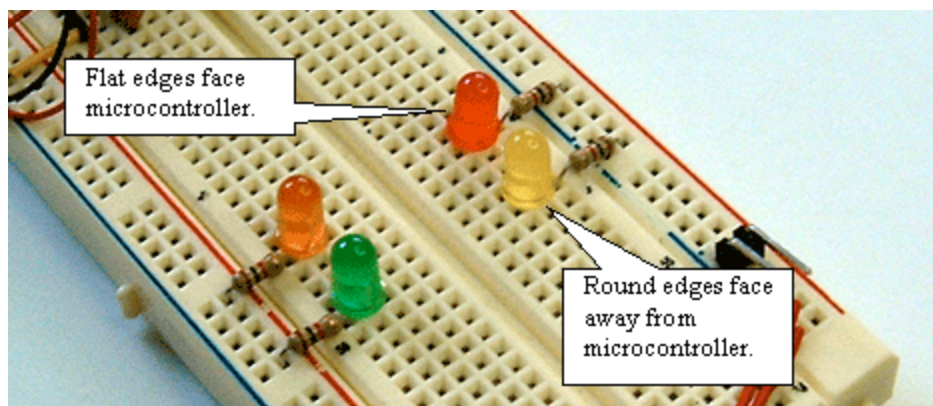

Figure 5. Adding the LEDs.
1. Insert the four LEDs into the board, as shown in Figure 5. The yellow LED should go in holes I48 and I49; the red LED should go in holes I44 and I45; the orange LED should go in holes B44 and B45; and the green LED should go in holes B48 and B49. (Note: Be sure the flat edge of each LED is facing toward the microcontroller. You may have to trim the pins on each LED to get it to sit securely on the board.)